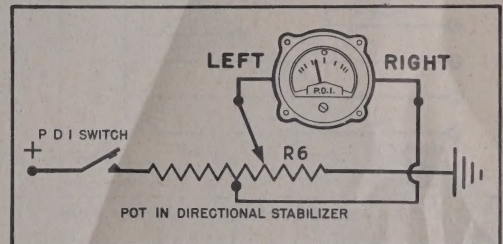

Fig. 52—P. D. I. Circuit
2. The PDI pot winding is supplied with direct current from the airplane's battery. Any displacement of the wiper from center of the winding produces a voltage between the wiper and a center tap on the winding. The magnitude and polarity of this voltage is measured by the Pilot Director Indicator or PDI on the pilot's instrument panel. The pointer of this instrument, therefore, follows the movements of the Autopilot clutch and indicates to the pilot the direction and amount of any course correction desired by the bombardier. When engaging the Autopilot system the pilot can tell when the Directional Panel is centered by watching the PDI. The PDI circuit is shown in Fig. 52.